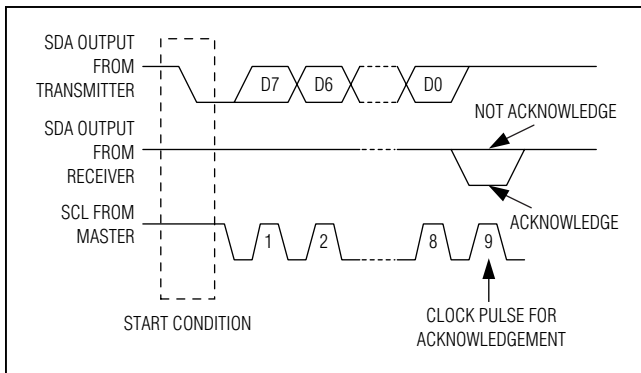

Figure 19. I²C Acknowledge
A START condition from the master signals the beginning of a transmission. The master terminates transmission by issuing a not-acknowledge followed by a STOP condition (see Figure 19 for more information). The STOP condition frees the bus. To issue a series of commands to the slave, the master may issue repeated START (Sr) commands instead of a STOP command in order to maintain control of the bus. In general, a repeated START command is functionally equivalent to a regular START command.
Both the master and the MAX3601 (slave) generate acknowledge bits when receiving data. The acknowledge bit is the last bit of each 9-bit data packet (Figure 19). To generate an acknowledge (A), the receiving device must pull SDA low before the rising edge of the acknowledge-related clock pulse (ninth pulse) and keep it low during the high period of the clock pulse. To generate a not acknowledge (NA), the receiving device allows SDA to be pulled high before the rising edge of the acknowledge-related clock pulse and leaves it high during the high period of the clock pulse.